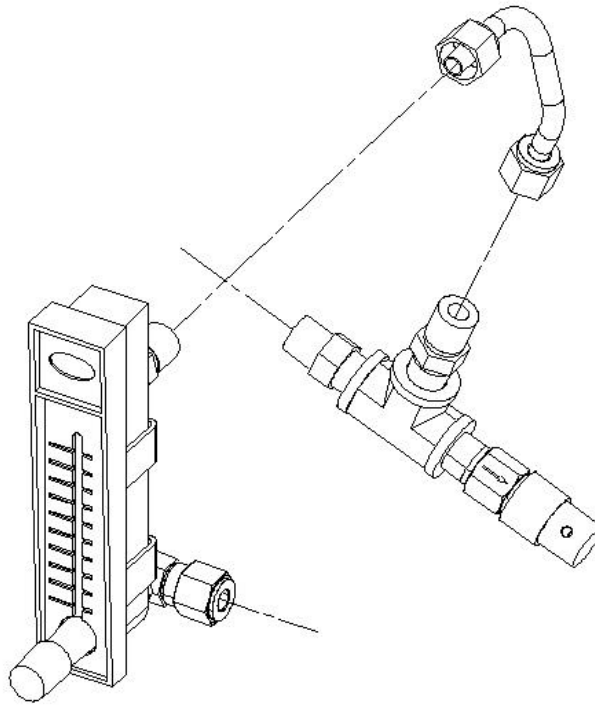

Figure 1. Flowmeter, Tube and Tee Subassemblies
2. Loosen the 2 Swagelok nuts to separate the Purge Assembly into 3 subassemblies as shown in Figure 1.